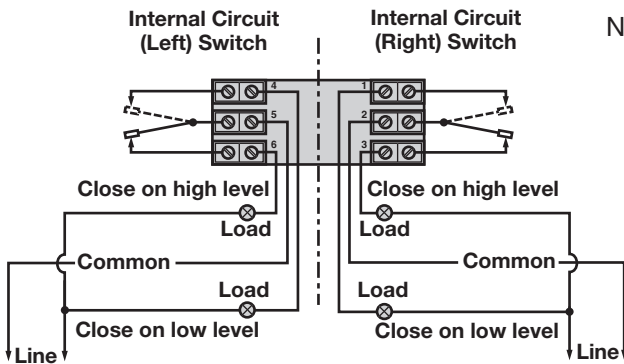

Figure 3
Figure 3 shows a typical piping installation of a Magnetrol B73 and Series 75 control to a pressure vessel. Level decals on control identify the actuation levels for a unit with a single switch at minimum specific gravity. See **Section 5.2, Physical** on page 18 for the actuation levels.
5. The switch terminals are located next to the conduit outlet to facilitate wiring. Bring supply wires through conduit outlet. Route extra wire around enclosing tube under the baffle plate, and connect them to the proper terminals. Refer to the wiring diagram, **Figure 3**, or your switch bulletin for this information.